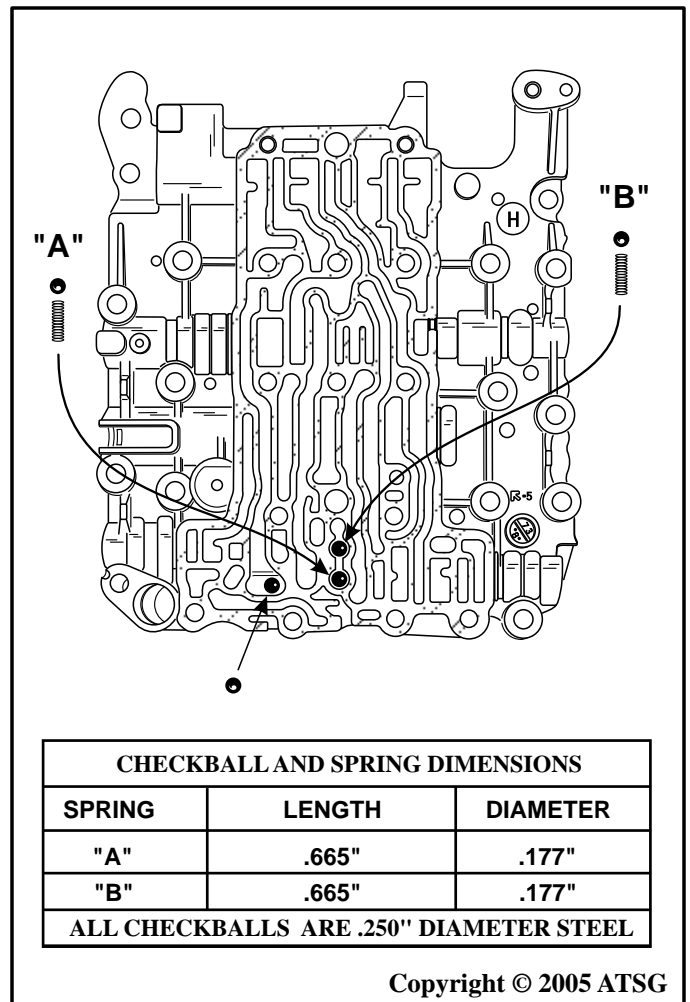

Figure 148
25. Turn the valve body over with the spacer plate facing down, as shown in Figure 148.
26. Install the "A" check ball and spring with the spring going in first, as shown in Figure 148.
27. Install the "B" check ball and spring with the spring going in first, as shown in Figure 148.
28. Install the last check ball into the bath tub, as shown in Figure 148.
**Note: Spring and check ball dimensions are shown in Figure 148.**